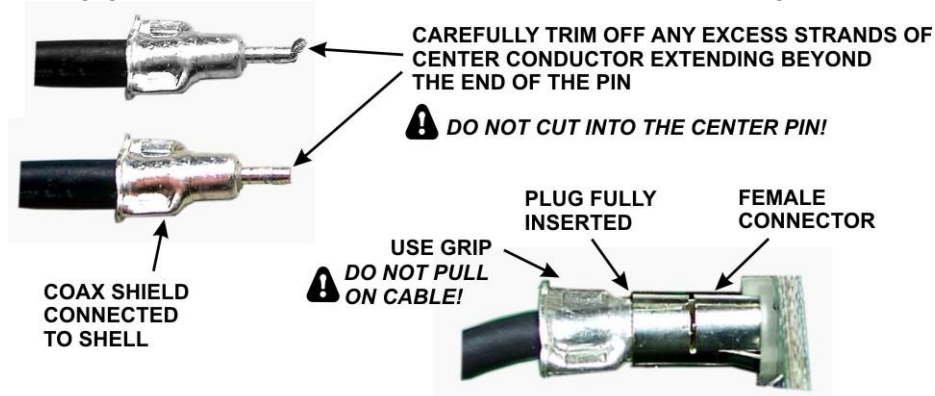

Figure 22. TMP Connectors.
- Locate the TMP coaxial cable. Plug one end into J902 on the RF board and the other end into RF IN, J100 on the front panel board. The connectors simply press into the sockets and are held in place by friction. If a connector refuses to engage, check for excess loose center conductor wires (see Figure 22).
The TMP connectors on the coaxial cable joining the front panel and RF boards are friction fit. To remove, pull on the metal ears on the connector. A slight twisting motion will help free a tight connector. ***Pull on the metal ears. Do not pull on the coaxial cable*** (see Figure 22 on page 62).